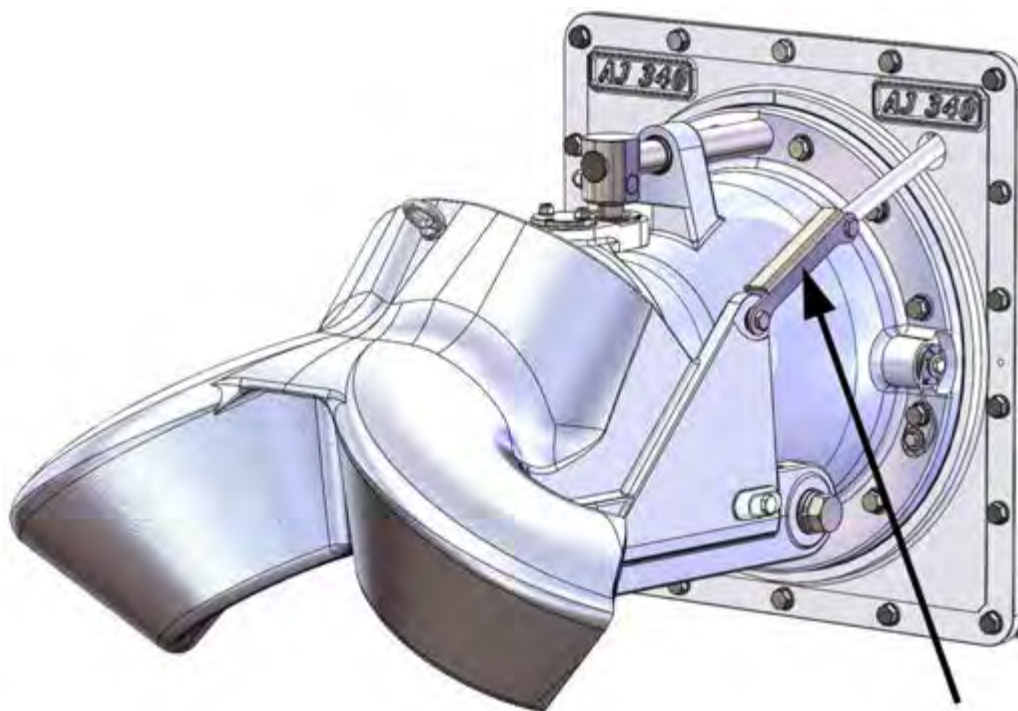

Figure 28. The intermediate bar between the hydraulic cylinder and the reversing deflector
7. Once you have installed the reversing deflector, install the intermediate bar between the cylinder and the deflector (figure 28).